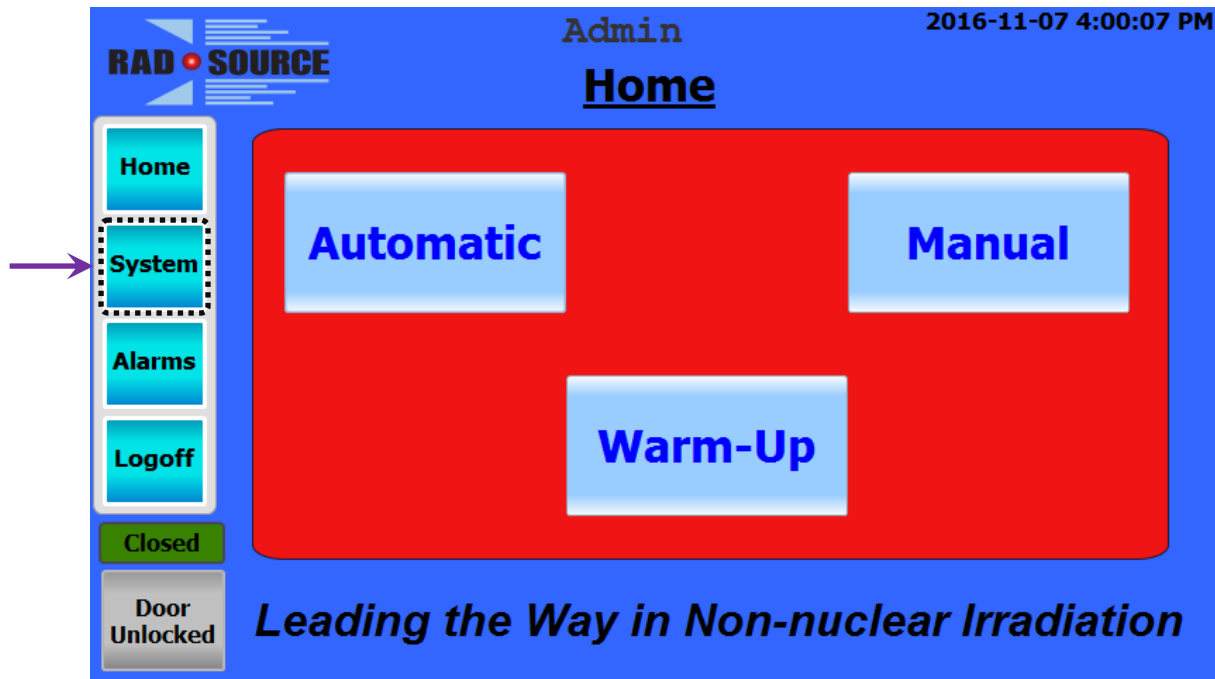

Figure 24: System Button
1. Select *System*. (See Fig. 24.)
3. Select *System*. (See Fig. 24.)